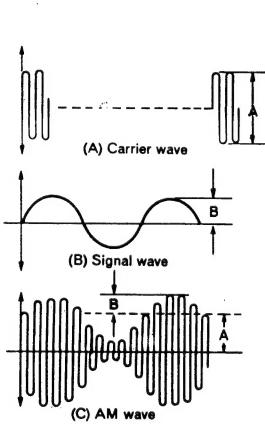
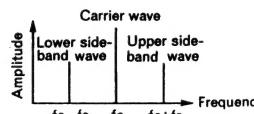

Fig. 1
Fig. 2
When the carrier wave (A) as shown in Fig. 1 is amplitude-modulated by the signal wave (B), the AM wave (C), the amplitude of the carrier of which changes according to the amplitude of the signal wave is obtained. When the carrier wave  $f_c$  (kHz) is amplitude-modulated by the single signal  $f_s$  (kHz), the AM wave contains the frequency component  $f_c - f_s$  (kHz),  $f_c$  (kHz),  $f_c + f_s$  (kHz) as shown in Fig. 2. The bandwidth [ $(f_c + f_s) - (f_c - f_s) = 2f_s$ ] of this frequency is called the occupied frequency bandwidth, and the component  $(f_c - f_s)$  kHz is called the lower side-band, and the component  $(f_c + f_s)$  kHz is called the upper side-band. Replacing  $f_s$  by a voice signal, the waveform of the voice signal is very complicated containing various frequency components from 300 Hz to 3,000 Hz, so it results in an AM wave, with very many upper side-band and lower side-band waves between  $\pm 3\text{kHz}$  of the carrier wave. The occupied frequency bandwidth is specified as 6kHz in